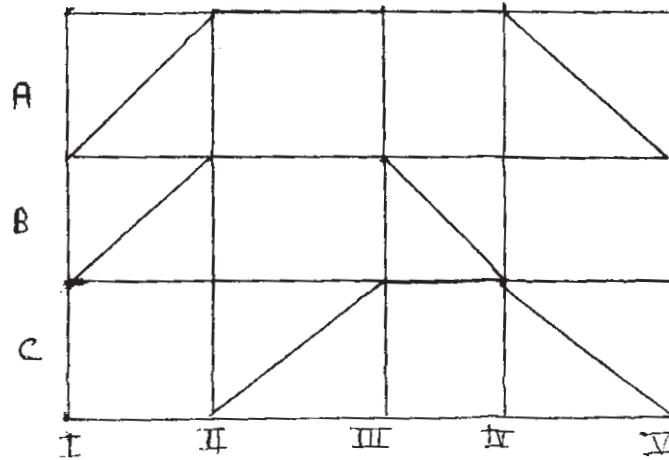

Fig . 2
- Q5) a)** Draw the suitable pneumatic circuit using cascade system to actuate cylinder 'A', cylinder 'B' and cylinder 'C' as per position step diagram shown in Fig. 2. [10]